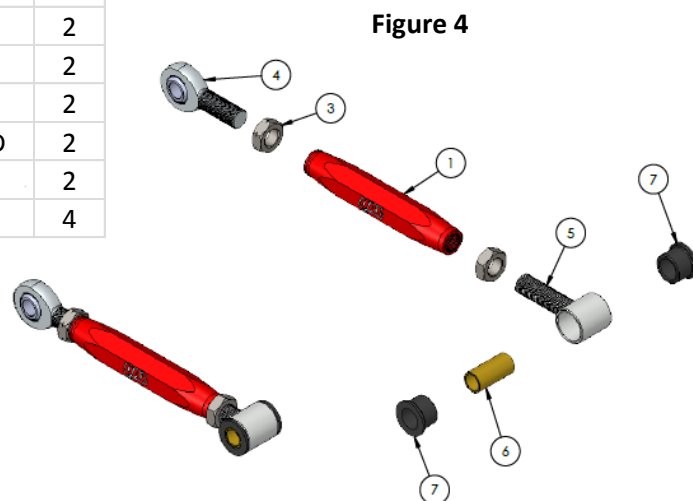

Figure 4
3. Assemble the adjuster links for the QA1 truck arms per **Figure 4** with anti-seize on the threads.